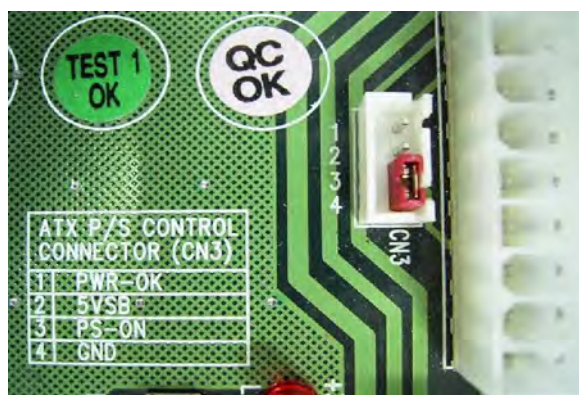

Figure 5-7
Step 2: Remove 4 pins power cable, and then put a jumper back on pin 3 (PS-ON) and pin 4 (GND) of backplane ATX P/S control connector. (Figure 5-7)